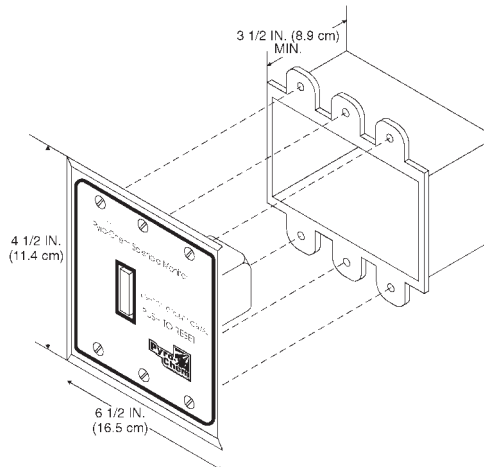

Figure 4-14. Solenoid Monitor Installation.
▶ mount the Solenoid Monitor in a standard 6 in. x 4 in. x 3 in. deep electrical box (see **Figure 4-14**).